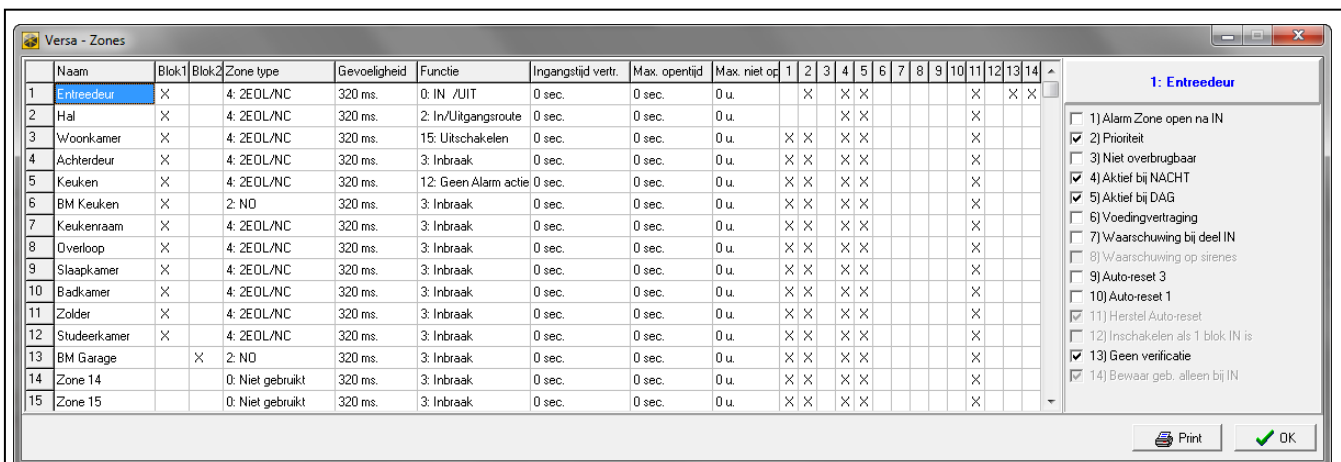

Fig. 8. DLOADX programma: “Versa – Zones” scherm.
- “Versa – Zones” scherm (Fig. 8).